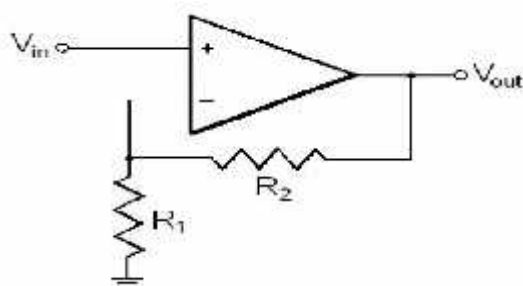

Fig. 1: Non-inverting amplifier
1. Make connections as given in fig 1 non-inverting amplifiers respectively.